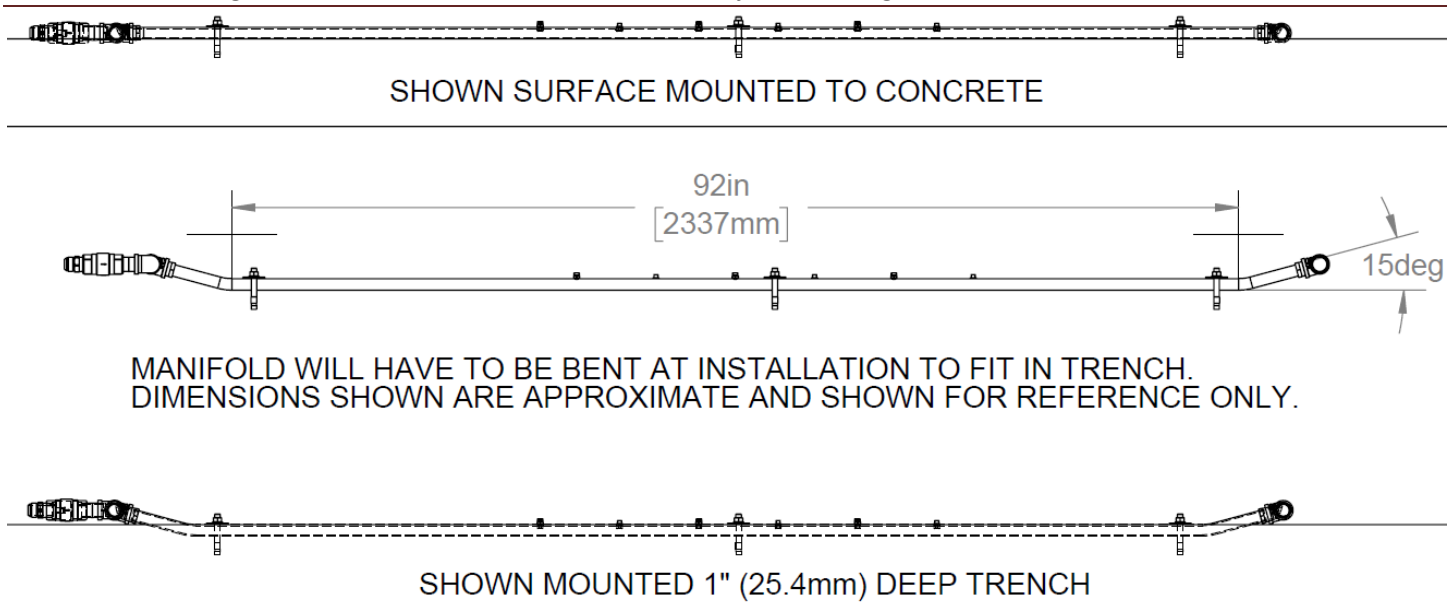

Figure 114 – Drive through Underbody Manifold Floor Mounting Options
- The manifold may be mounted directly to the wash bay floor or in a trench to recess it beneath the floor level. If a trench is used, this should be made approximately 102 in (2.59m) long, 1.5 in (38mm) wide, and 1 in (25mm) deep. See Figure 114 for mounting options.